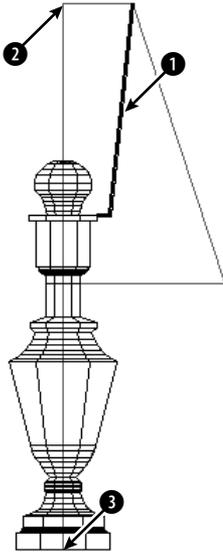

Figure 24-27: A partially completed lamp.
2. Save the file as ab24-07.dwg in your AutoCAD Bible folder. You see part of a lamp, as shown in Figure 24-27. Make sure OSNAP is on. Set a running object snap for endpoint.
Select objects: *Select the support at ❶ in Figure 24-27.*